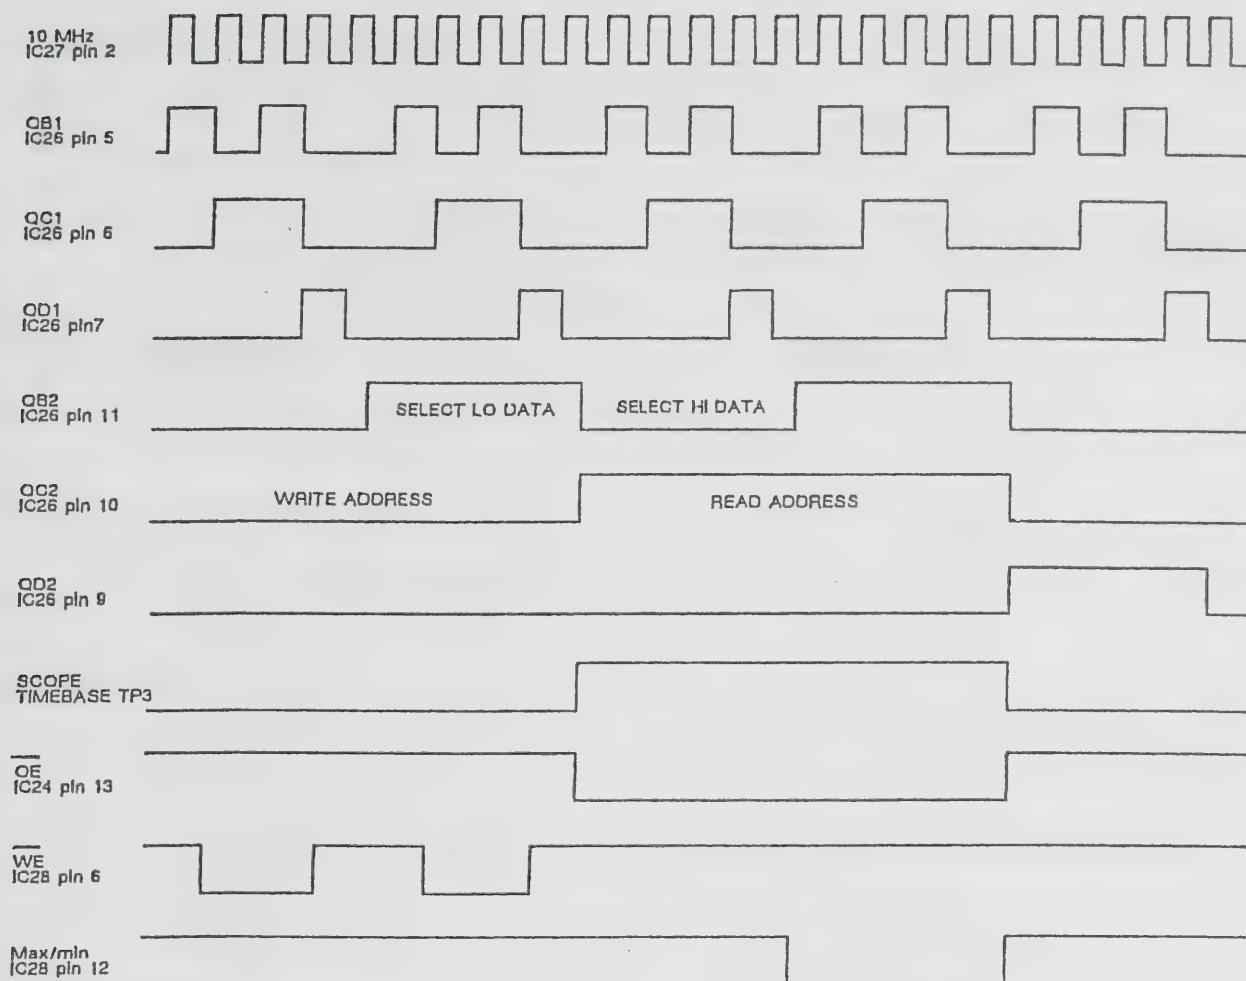

Fig. 5-1 Board AB2/2 timing generator timing
- (13) Check the operation of the timing generator as shown in Fig. 5-1.